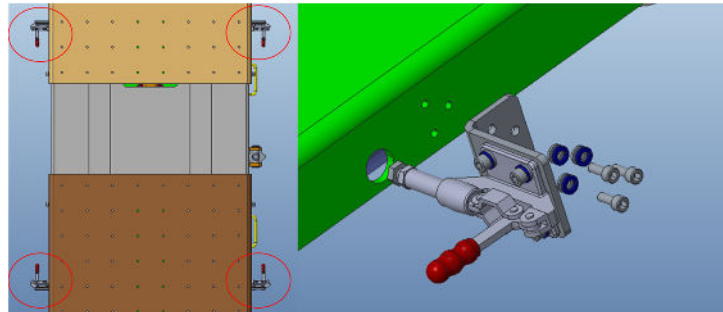

Fig.7.1.9 Clamp Bracket Assembly
- G. Complete the Clamp Bracket Assembly (4 pcs) assembly (Fig.7.1.9).